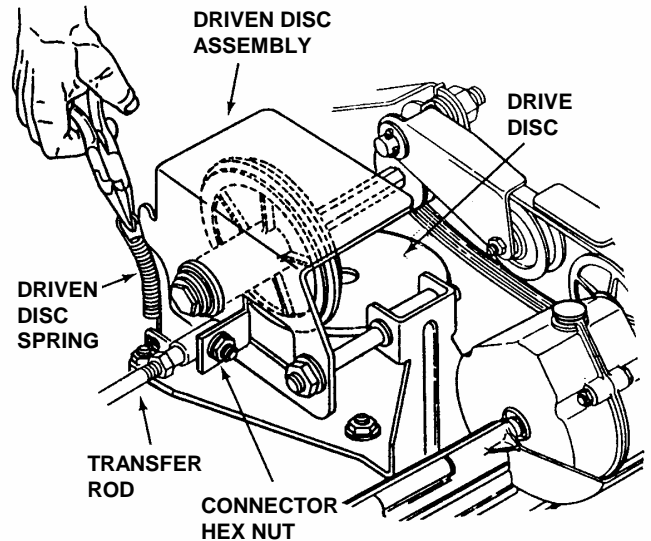

FIGURE 12
B. Remove driven disc spring from driven disc assembly as shown. Loosen connector hex-nut. See Figure 12.